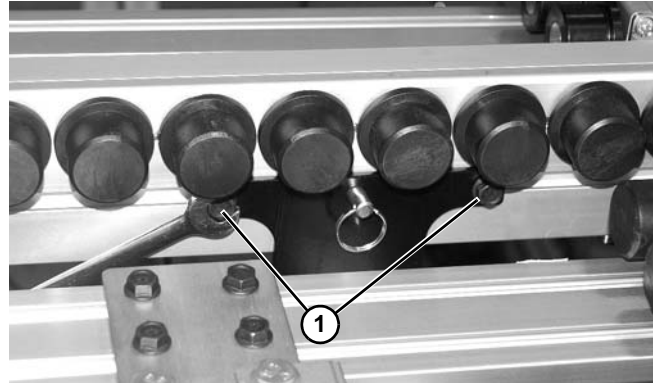

Figure 36
3. Tilt locate station and position, as needed, and install and tighten bolts (**Figure 36, item 1**) into follower nuts inside channel.